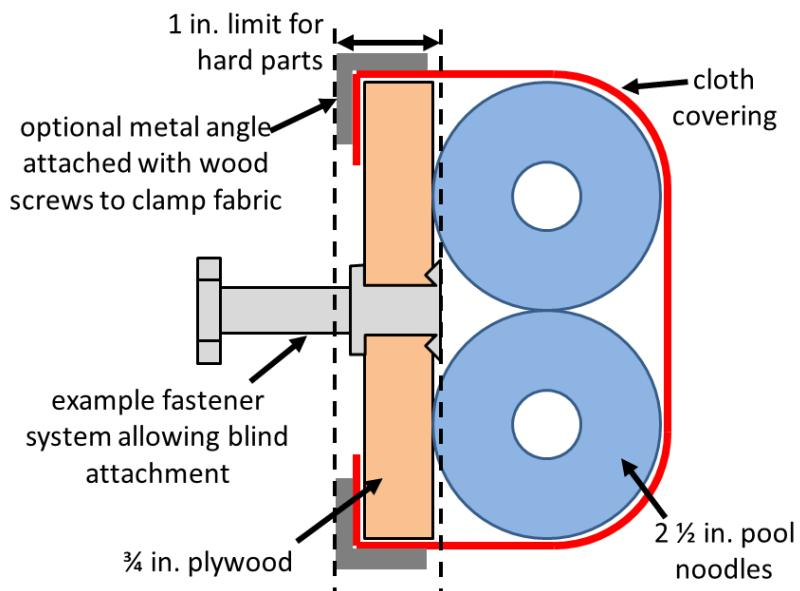
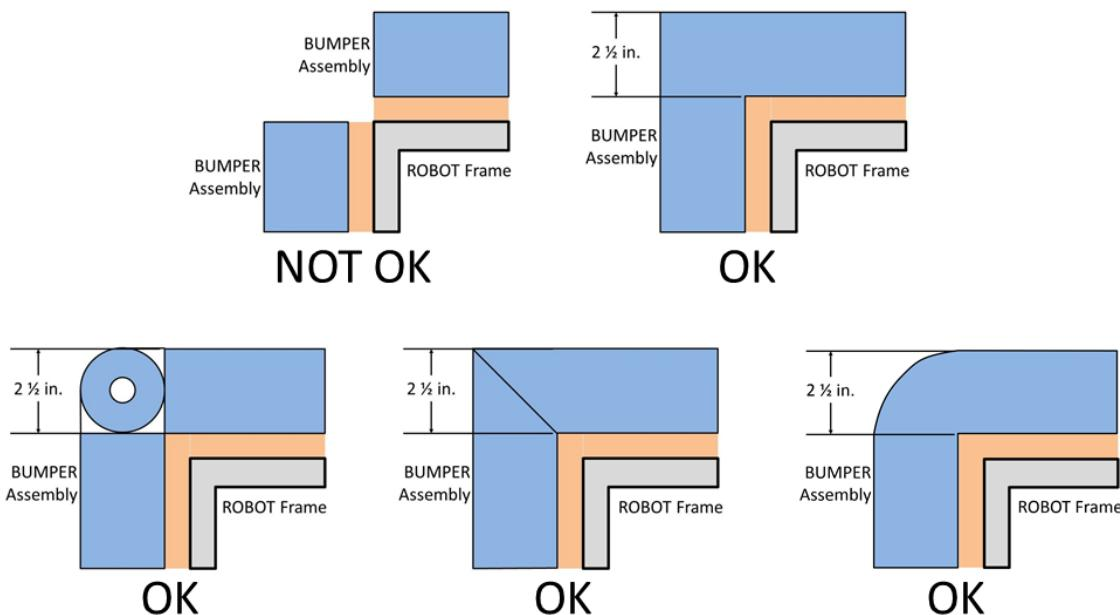

Figure 9-6 BUMPER Vertical Cross Section
Figure 9-7 Soft Parts of BUMPER Corners
R24. BUMPERS must be constructed as follows (see Figure 9-6):
- C. use a stacked pair of approximately 2½ in. (nominal, ~63mm) round, petal, or hex “pool noodles” (solid or hollow) as the BUMPER cushion material (see Figure 9-6). All pool noodles used in a BUMPER set (e.g. Red set of BUMPERS) may not be modified (with the exception of cutting to length or beveling ends) or deformed and must be the same diameter, cross-section, and density (e.g. all round hollow or all hex solid). Cushion material may extend up to 2½ in. (~63 mm) beyond the end of the plywood (see Figure 9-7). To assist in applying the fabric covering, soft fasteners may be used to attach the pool noodles to the wood backing, so long as the cross section in Figure 9-6 is not significantly altered (e.g. tape compressing the pool noodles).
- D. be covered with a rugged, smooth cloth. (multiple layers of cloth and seams are permitted if needed to accommodate R21, provided the cross section in Figure 9-6 is not significantly altered).
- E. optionally use metal angle, as shown in Figure 9-6 or other fasteners (e.g. staples, screws, etc.) to clamp cloth.
R25. Corner joints between BUMPERS must be filled with pool noodle material. Examples of implementation are shown in Figure 9-7.